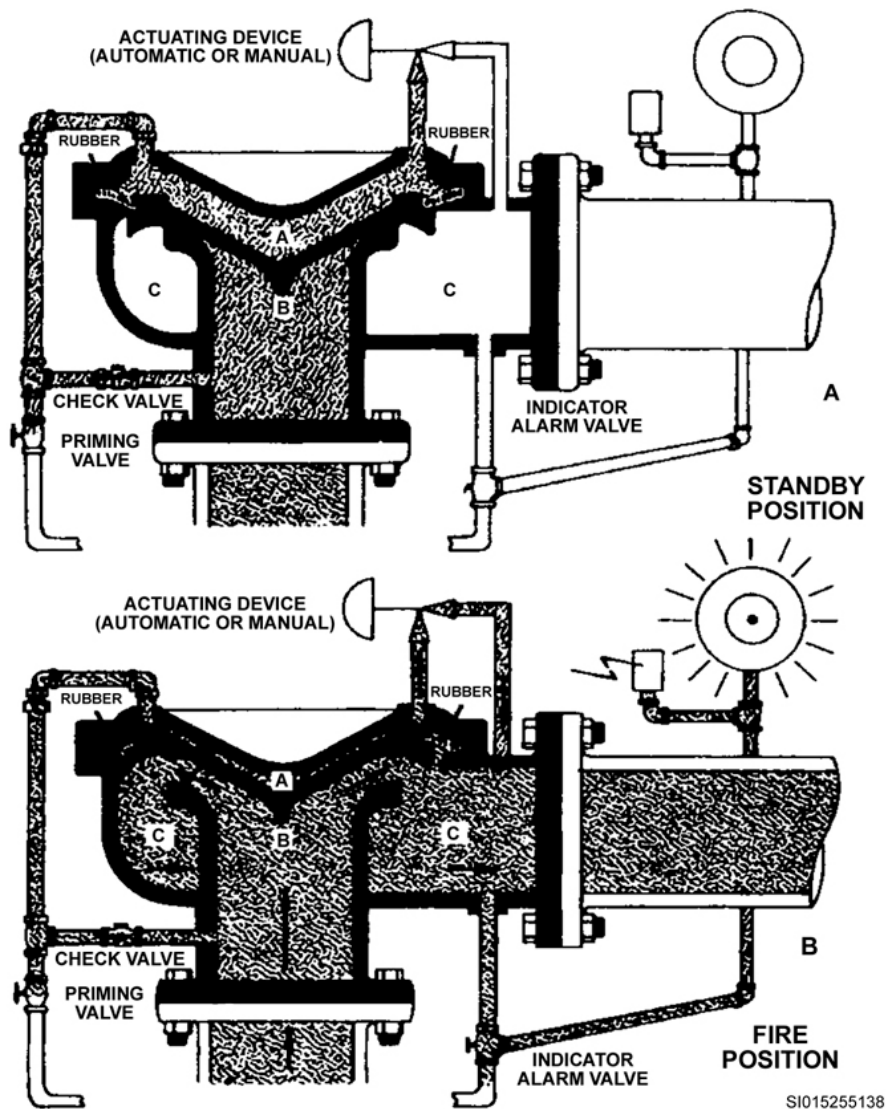

Figure 1-12. Deluge valve operation.
Figure 1-12 shows a differential deluge valve in both the STANDBY and the FIRE positions. This valve is opened by releasing the water pressure inside chamber A. The water pressure in chamber A can be released in one of four ways: electrically, pneumatically, hydraulically, or manually. The rate-of-rise detection system for this type of deluge valve is known as thermostatic-release devices. The piping connecting the thermostatic-release to the deluge valve is filled with water or air pressure. The release of this pressure causes the pressure in chamber A to be released and the deluge valve to open. To electrically operate the system, a solenoid valve is installed on the hydraulic release line. The leads from this valve can be attached to any type of electrical detection equipment: smoke alarms, heat detectors, ultraviolet (UV), and infrared detectors. Manual release of this system could be nothing more than a ball valve installed on the hydraulic line.
When the deluge valve is actuated by the detection system, or a manual release is operated, the water pressure in chamber A of figure 1-12 is immediately lowered destroying the pressure differential between chamber A and chamber B.